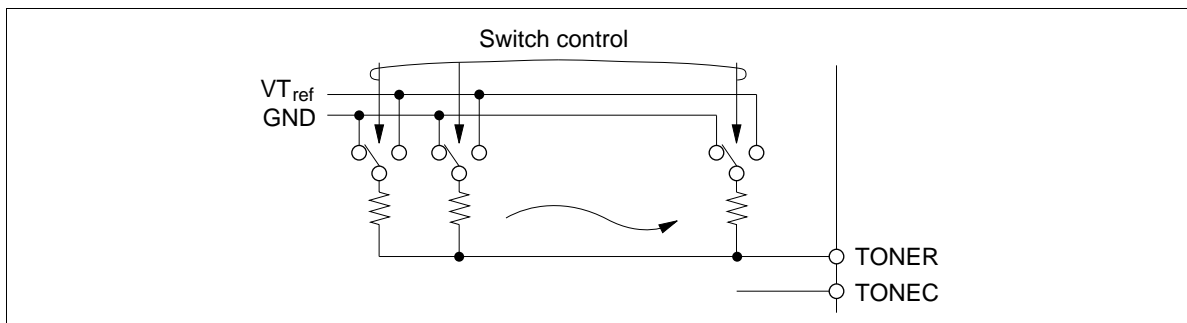
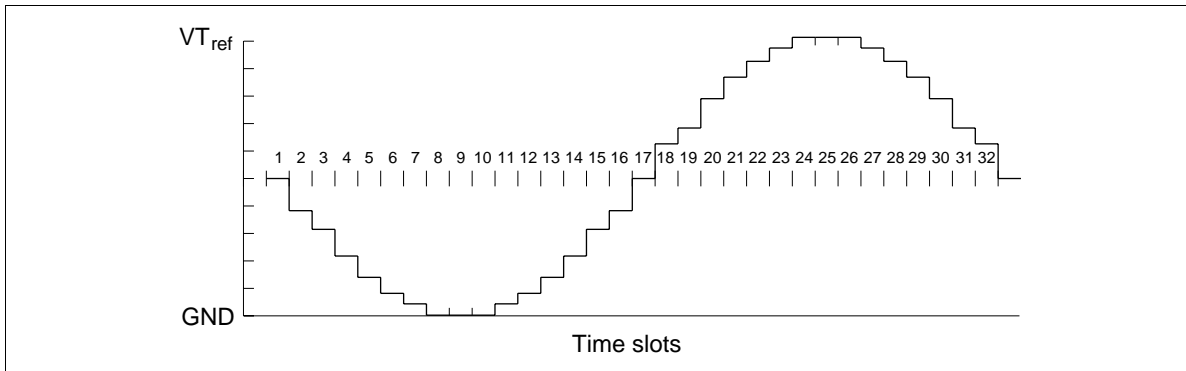

Figure 41 Tone Output Equivalent Circuit
Figure 42 Waveform of Tone Output
**DTMF Output:** The sine waves of the row-group and column-group are individually converted from digital to analog in the D/A conversion circuit, which provides high-precision ladder resistance. The DTMF output pins, TONER and TONEC, transmit the sine waves of the row-group and column-group, respectively. Figure 41 shows the tone output equivalent circuit. Figure 42 shows the output waveform. One cycle of this wave consists of 32 time slots, making the output waveform stable with little distortion. Table 32 lists the frequency deviation of the MCU from standard DTMF signals.